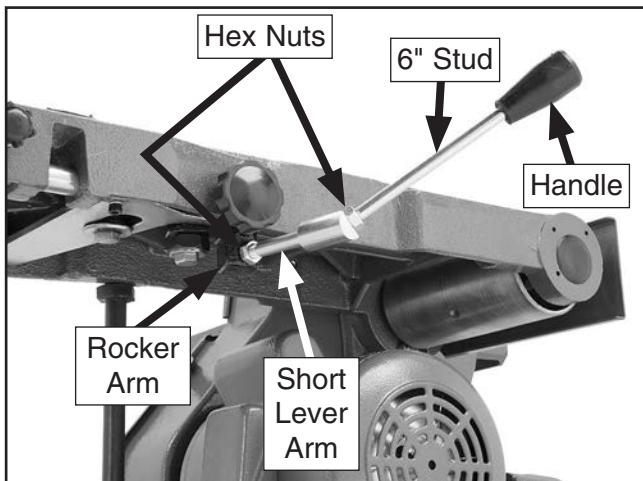

Figure 35. Quick release lever installed.
- 20.** Assemble the quick release lever, as shown in **Figure 35**, using the handle, 6" quick release lever stud, short lever arm, and 3/8"-16 hex nuts, thread the assembly into the rocker arm, then tighten the hex nuts.